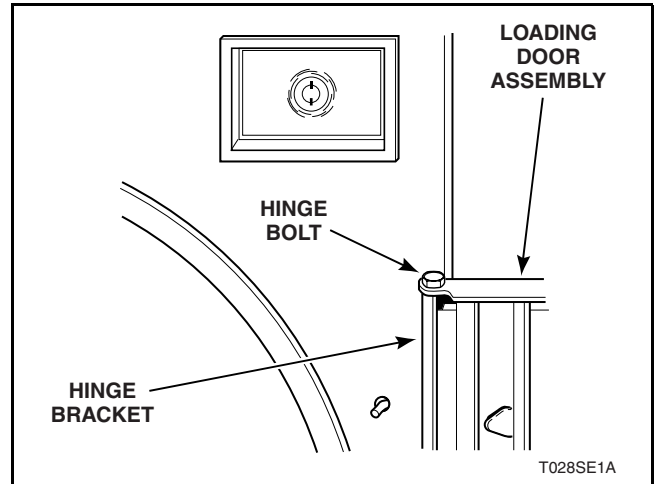

Figure 32
- Open loading door, support door and remove upper hinge bolt holding door to hinge bracket. Refer to *Figure 32*.
- c. Open loading door, support door and remove upper hinge bolt holding door to hinge bracket. Refer to *Figure 32*.